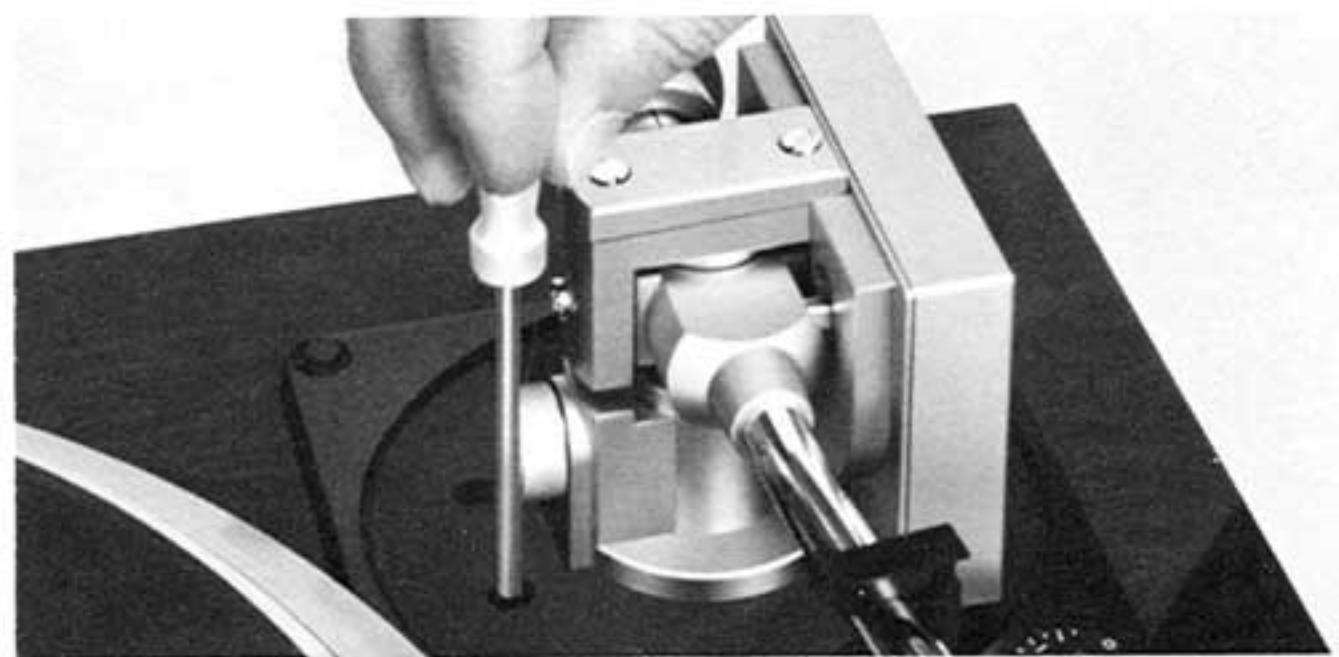

Fig. 12
2. Set the SIZE switch to "30" and operate the turntable in automatic play. Confirm if the stylus lead-in position is about 3 to 4 mm inward from the outermost edge of the record disc. If the lead-in position is not in the proper range, turn the adjusting screw with a screwdriver and adjust the lead-in position. (Fig. 12)